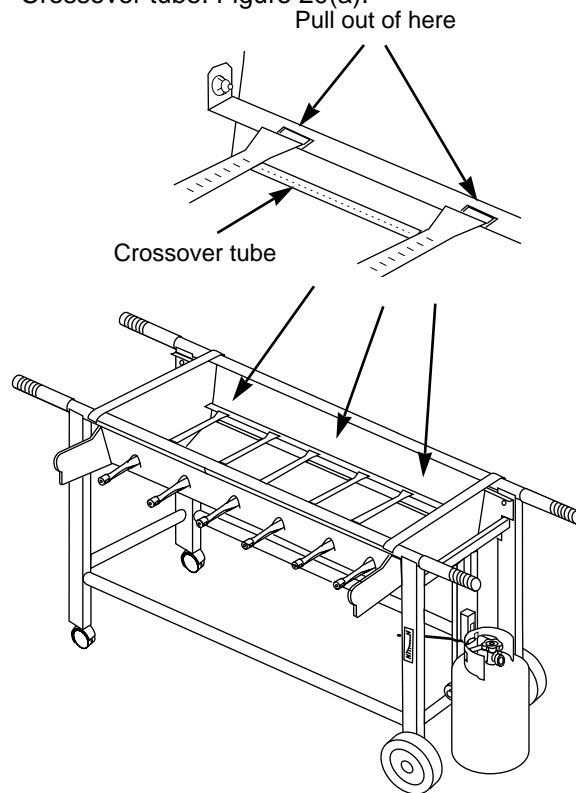

Figure 20
12. Slide the burner assembly from each Heat Zone. The left and right burners are connected by the Crossover tube. Figure 20(a).